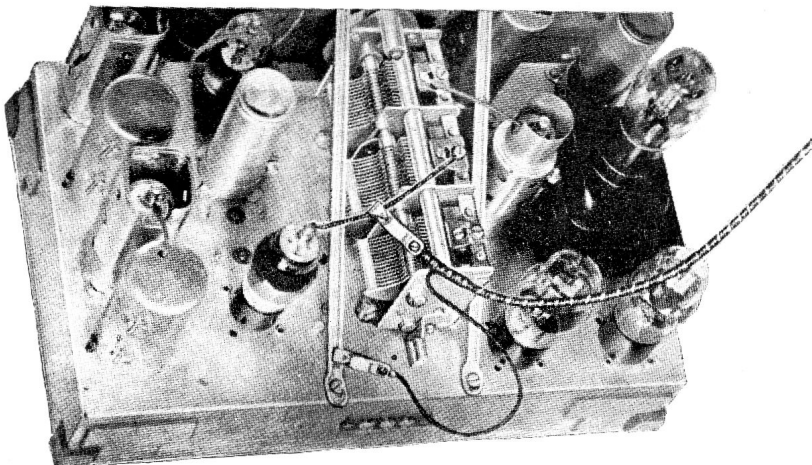

Fig. 1—Connecting Station Oscillator Lead to Wire on Tuning Condenser
- E. The clip lead from the Model 088 Oscillator is then clipped to the insulation on the wire that is soldered to the middle section of the tuning condenser gang of Model C4. (See Fig. 1.) In the Model C7—the lead is clipped to the insulation on the wire that is soldered to the rear section (nearest the back of the radio) of the tuning condenser.